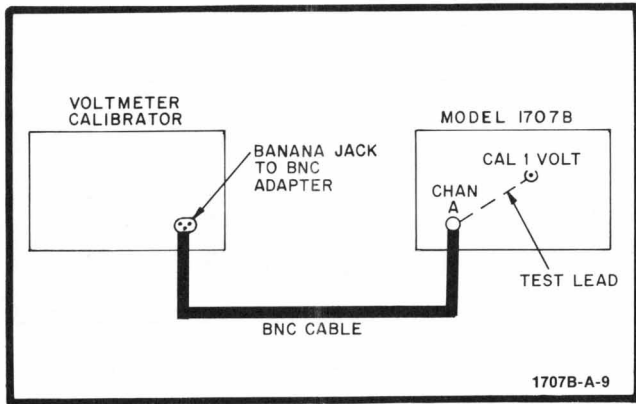

Figure 5-18. Calibrator Test Setup
- a. Connect instruments as shown in figure 5-18.